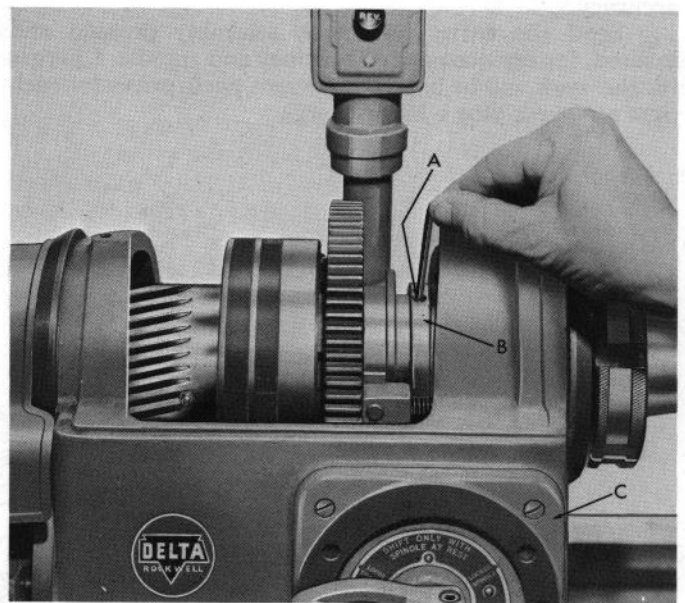
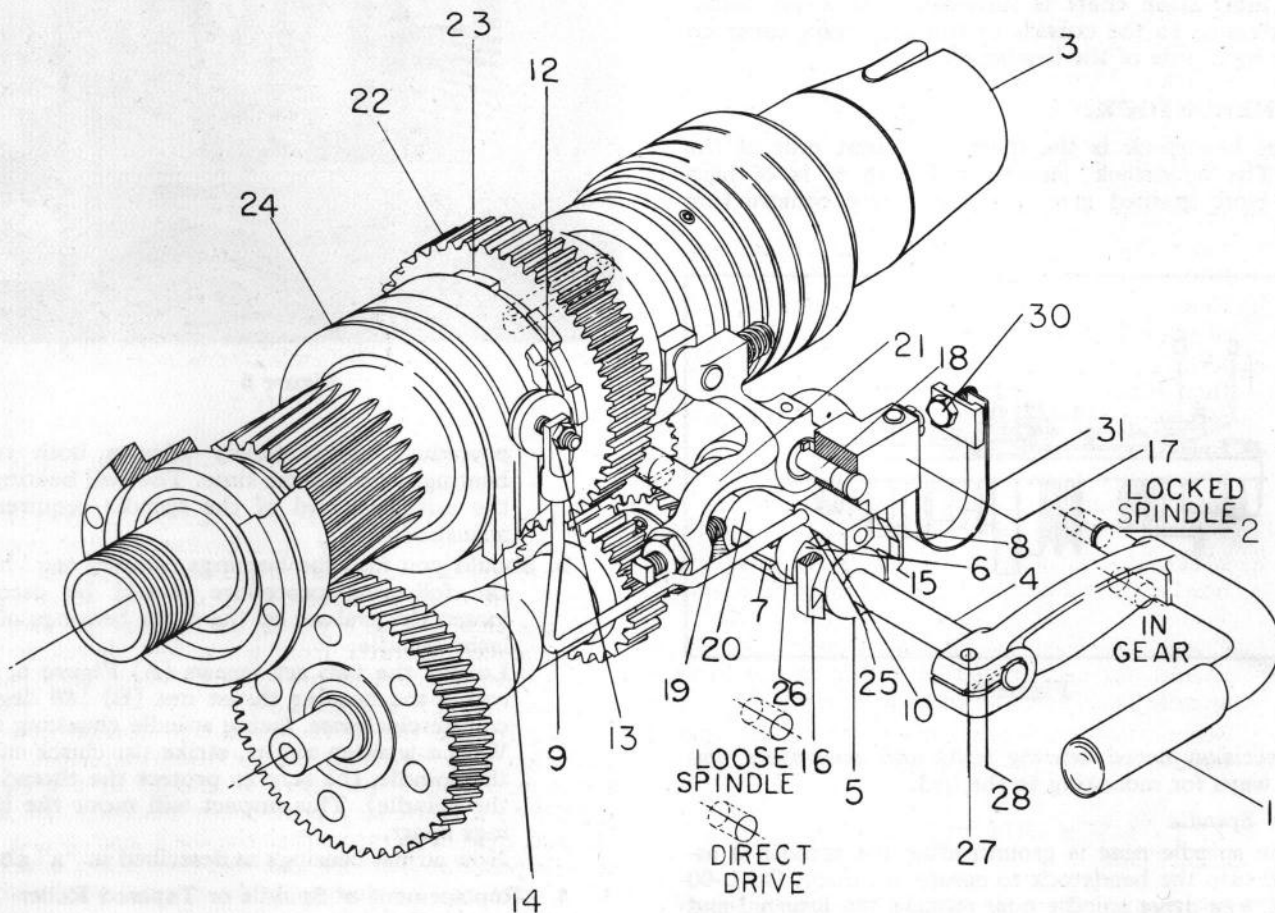

Figure 6
Figure 8
The headstock is the most important unit of the lathe. The headstock, shown in Figure 6, is of high tensile close grained gray iron, one piece construction
- Adjustment of the spindle bearings is not often necessary, but if the spindle should develop end play, or spin too freely, two set screws (A) Figure 6, should be loosened and thrust nut (B) tightened until the end play is removed and the spindle turns with a slight drag. From this point, loosen or back off the thrust nut (B) 10 degrees to provide the proper preload for the bearings. Retighten set screws (A). This
Loosen the two set screws (A) Figure 6, and rotate the bearing thrust nut (B) 180 degrees counterclockwise, facing spindle chucking side. With a wooden mallet, strike the chuck end of the spindle, (be sure to protect the threads on the spindle). This impact will move the bearings apart.
- Drop lever back into loose spindle position, and then remove lever from shaft by first entirely removing screw (27) and pin (28) of Figure 8.
- Carefully remove cover (C) Figure 6, after first removing remaining screws, being careful to hold shaft (4) Figure 8, in place so that it will not withdraw along with the cover plate.
When the selector handle pin (2) Figure 8, is engaged in the indent for back gear drive, loose spindle or direct drive, it is normally impossible for the operator to pull out of this drive position with the motor running. By a sudden jerk, the lever can sometimes be withdrawn from the locating hole while the motor is running, but no harm can be done, since this action automatically disengages the direct drive dog clutch in the headstock.
The pin of the drive selector can be disengaged from any position preliminary to selecting another position. If, however, the motor is turned on at this point, after pulling out from one position but before selecting the next position, the safety lock-out feature prevents the inexperienced operator from going into direct drive or lock spindle position by preventing the pin (2) Figure 8, from entering the selected hole.
IMPORTANT ADJUSTMENT, see Figure 8. Brake shoe (12) must be adjusted so that it is not in contact with the belts (14), and not *more* than $\frac{1}{16}$ " away from the belts, when the motor is turned off and the pin (2) engaged in any one of the four positions.
If necessary to make the adjustment, leave the drive selector in any one of the four positions and, with the motor turned off, remove handle (1) Figure 8, by entirely removing screw (27), remove pin (28), remove cover plate (C) Figure 6, being careful to hold shaft (4) in place so that it will not withdraw along with the cover plate. Then move the flat spring (31) up or down as the case may be. This is done by loosening the screw (30) which holds one end of the flat spring (31) against the headstock body casting. The two pawls (15) and (16) must be equally spaced on either side of the cam (5).